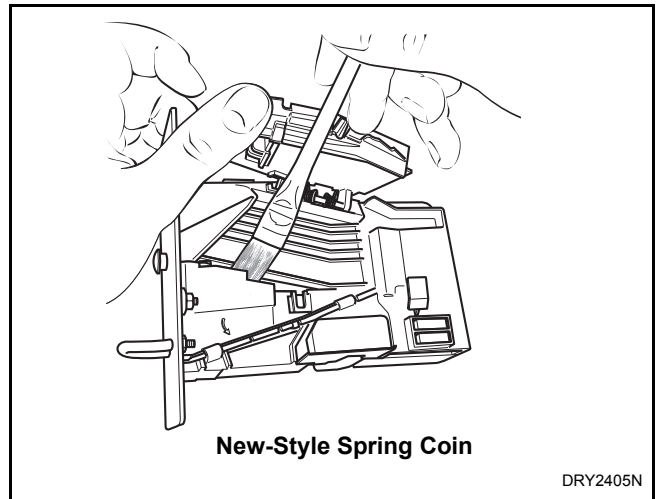
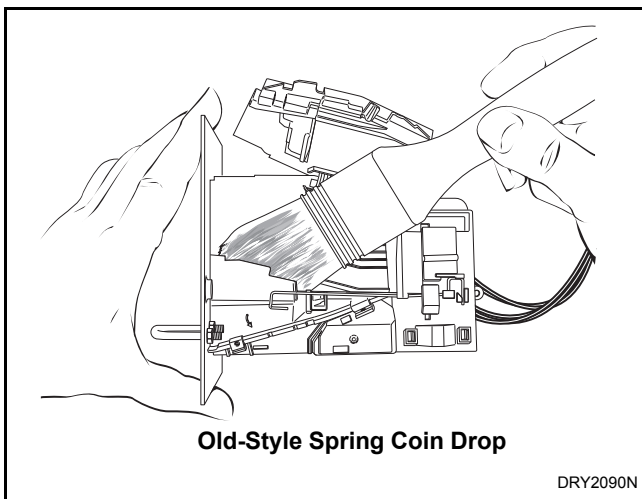

Figure 30
Figure 29
- d. Clean the coin path with a soft brush and wipe exposed surfaces with an alcohol moistened cloth. Refer to *Figure 29* or *Figure 30*.